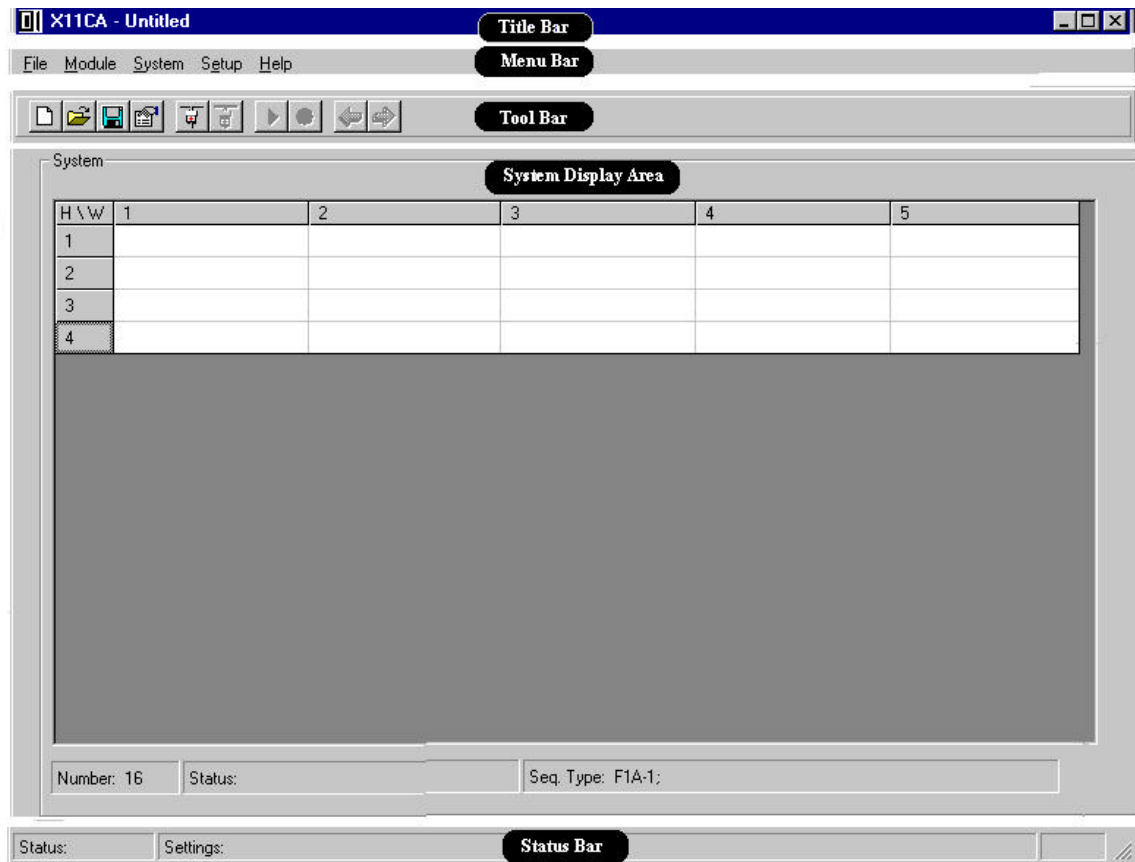

Figure 4-3 Main Window
*Example:* The title bar on *Figure 4-3* shows that the name of the program is 'X11CA' and the configuration file name is 'untitled'.